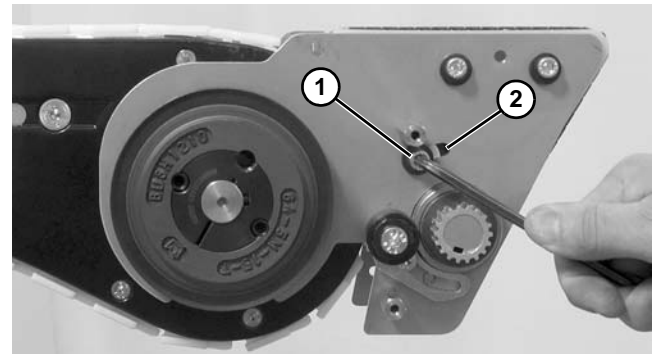

Figure 143
4. Loosen idler socket head screw (**Figure 143, item 1**) on both sides of the conveyor.
5. Slide idler assembly within slot (**Figure 143, item 2**) to remove tension on belt.